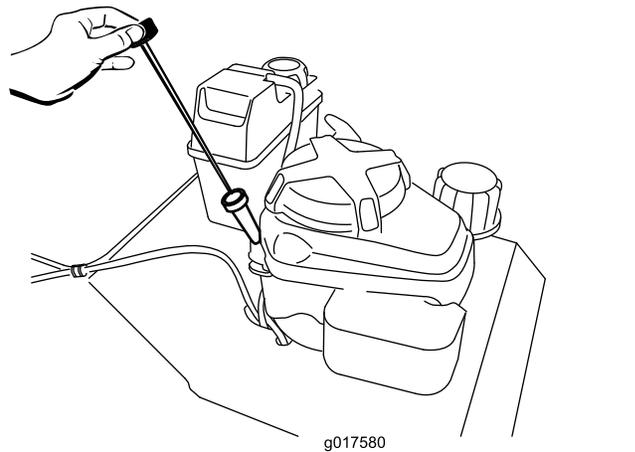

Figure 7
2. Clean around the dipstick (Figure 7).